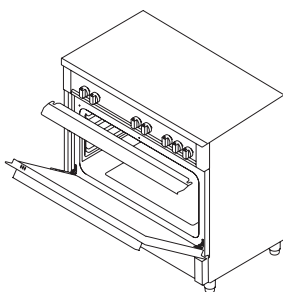
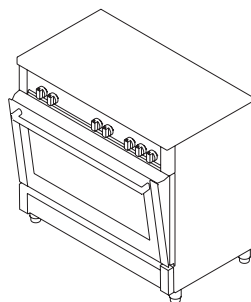

Fig. 27
Fig. 28
3. Place the safety panel under control panel by opening the oven front cover glass. (figure 27) And then secure the safety panel in between oven and front cover by gently closing the cover. (figure 28)